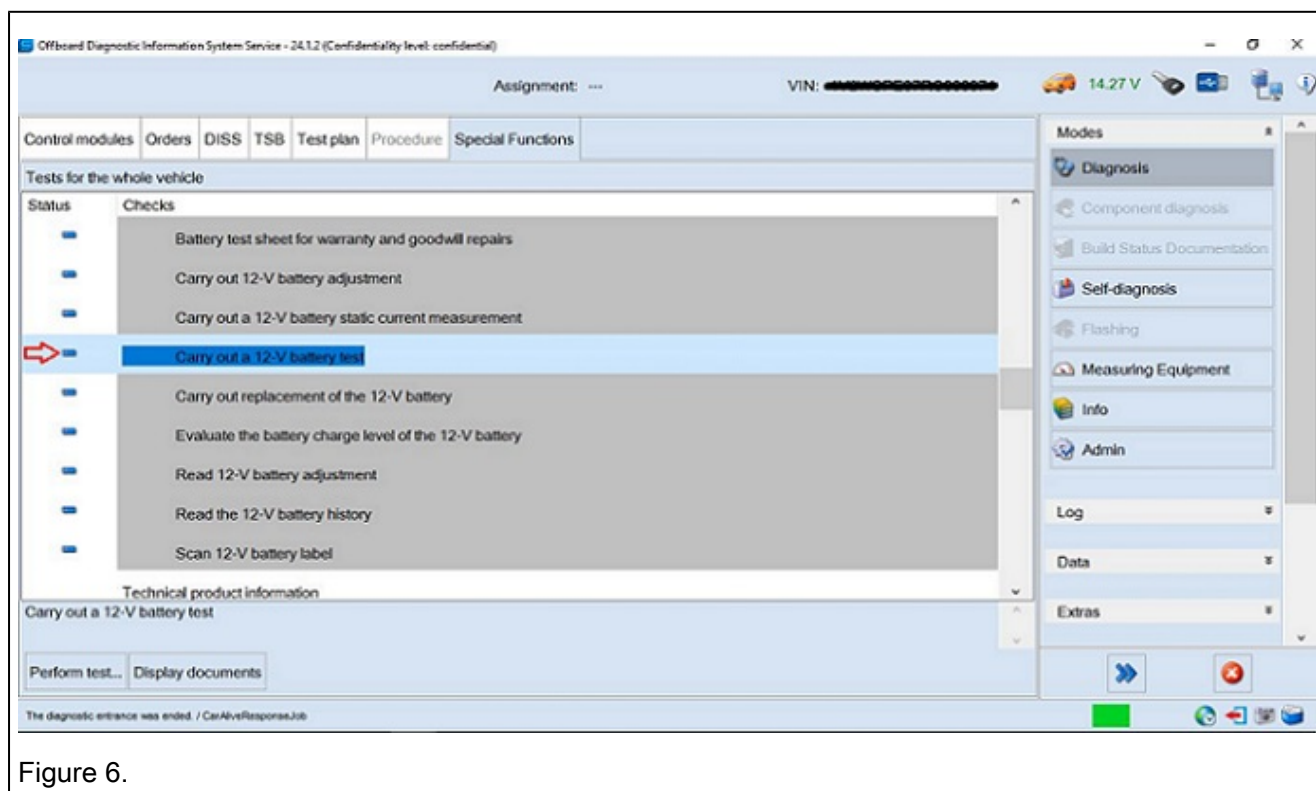

Figure 6.
6. Navigate to special functions and then select “Carry out a 12-V battery test” (Figure 6).